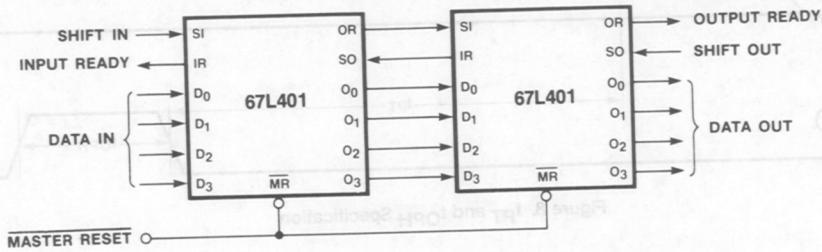

Figure 11. Cascading FIFOs to Form 128 x 4 FIFO with 67L401's
After power up the Master Reset is pulsed low (Fig. 11) to prepare the FIFO to accept data in the first location. When Input Ready (IR) is HIGH the location is ready to accept data from the D_x inputs. Data then present at the data inputs is entered into the first location when the Shift In (SI) is brought HIGH. A SI HIGH signal causes the IR to go LOW. Data remains at the first location until SI is brought LOW. When SI is brought LOW and the FIFO is not full, IR will go HIGH, indicating that more room is available. Simultaneously, data will propagate to the second location and continue shifting until it reaches the output stage or a full location. If the memory is full, IR will remain LOW.